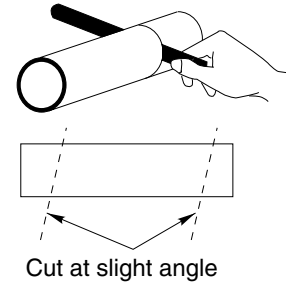

Fig. 3-17
- (5) Measure the thickness of the wall from the inside edge to the outside edge and cut PVC pipe at a slight angle 6 mm shorter than the thickness of the wall. (Fig. 3-17)